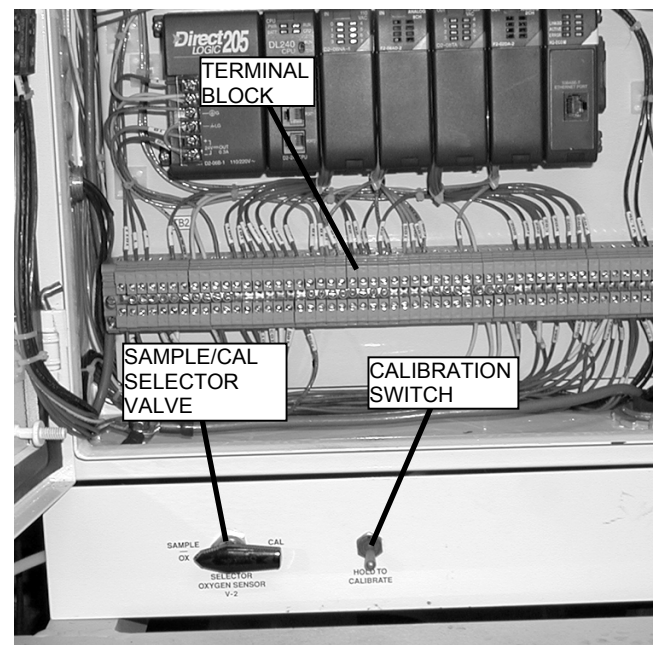

Figure 31. Sample/Cal Valve and Calibration Switch.
- e. Locate terminals 503 and 82 on the modular terminal block at the bottom of the electrical panel. These terminals will be used to determine the voltage output of the oxygen sensor at any given oxygen concentration. The voltage is 0.000 to 1.000 volts dc proportional to 0-100% oxygen concentration. Refer to Figure 31.
- f. Switch the Sample/Cal valve to Cal position. Refer to Figure 31.